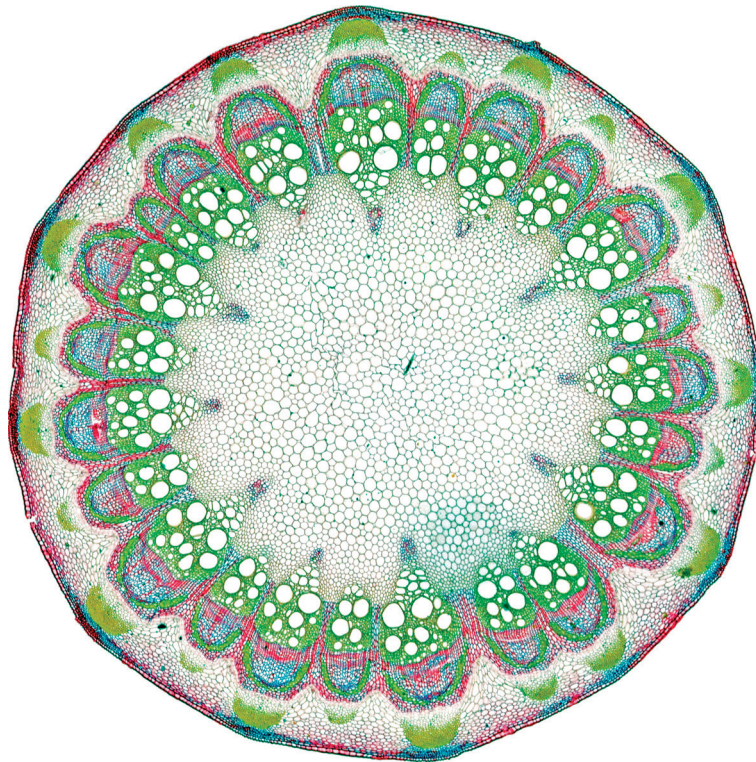
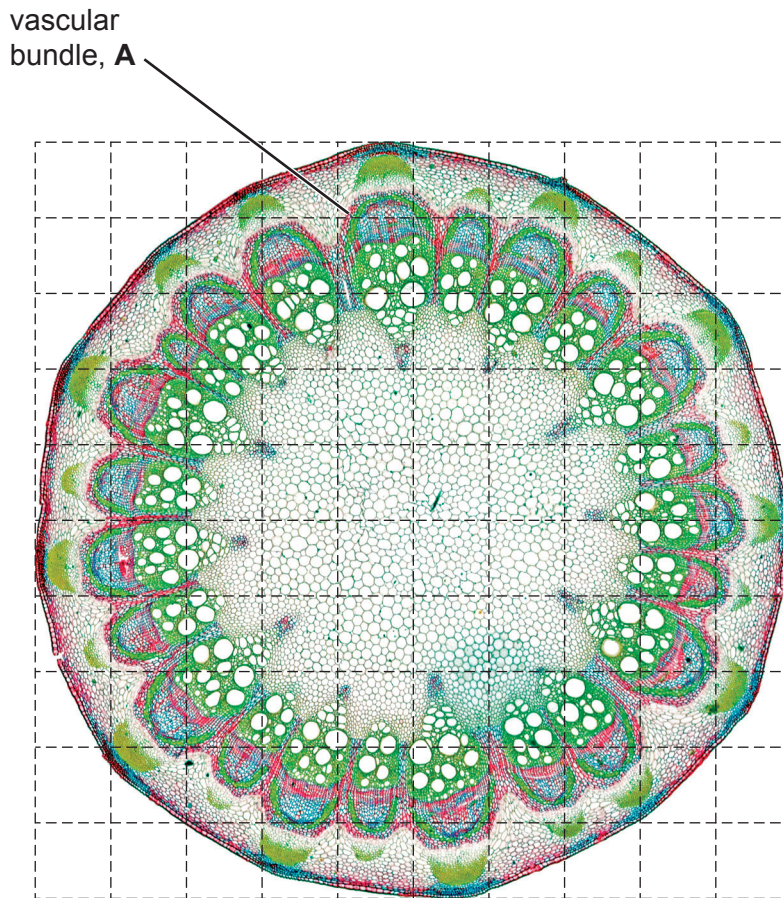

Fig. 2.1
Fig. 2.2
- (b) Fig. 2.1 is a photomicrograph of a stained transverse section through a plant organ of a different type of plant.
Identify the observable differences between the section on **L1** and the section in Fig. 2.1.
(c) Fig. 2.2 is a photomicrograph of the same section that is in Fig. 2.1.
You will need to use the grid to find the area of the vascular bundle labelled **A** and the total area of the plant organ section in Fig. 2.2.
(ii) Use the grid to estimate the area of the vascular bundle labelled **A** and the total area of the plant organ section in Fig. 2.2.